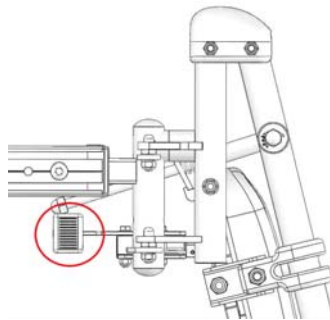
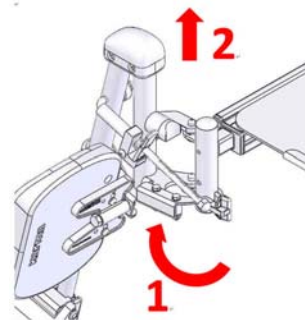

Figure 5-16
Figure 5-17
5.3.1.4.2 To swing away and detach the footrests, pull the swing-away lever (Figure 5-16), then you can swing away and/or detach the footrests. (Figure 5-17) It can make transferring in and out of the wheelchair easier.